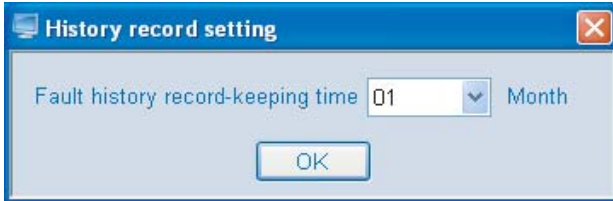

Fig.4-61
②Click “History set”, an interface as Fig. 4-61 displays ——to modify or select the history error saving duration.